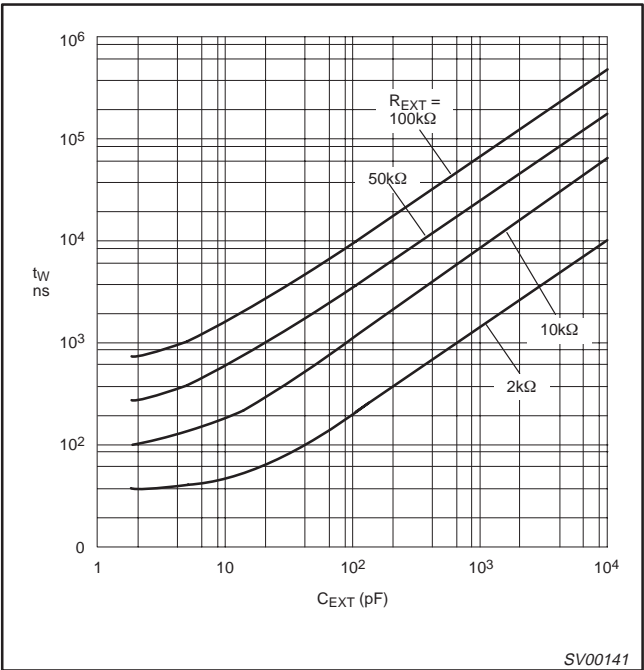

Figure 5. Typical output pulse width as a function of the external capacitor values at $V_{CC} = 3.3$ V and $T_{amb} = 25^\circ\text{C}$.
- For other R_{EXT} and C_{EXT} combinations see Figure 5.